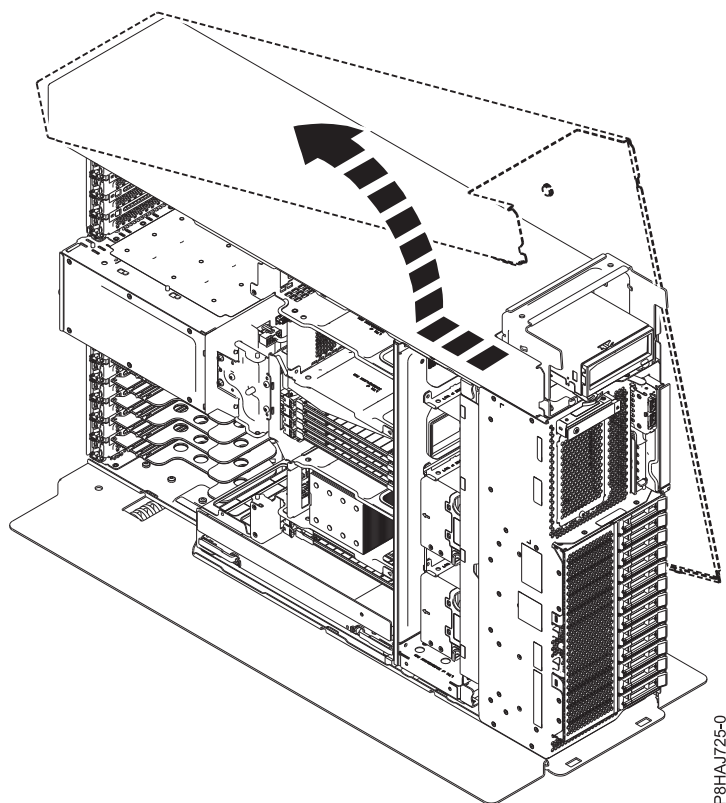

Figure 116. Removing the 8286-41A side cover
5. Slide the side cover off of the system in the direction that is shown in Figure 116 on page 134.